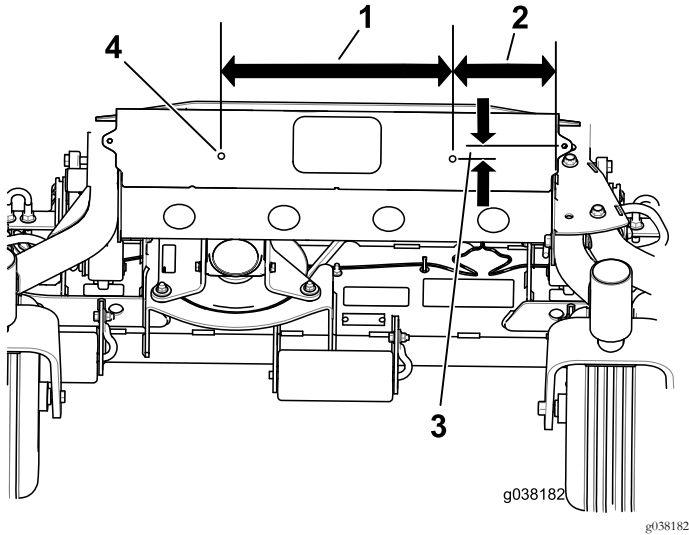

Figure 2
2. Drill the holes as shown in Figure 2.